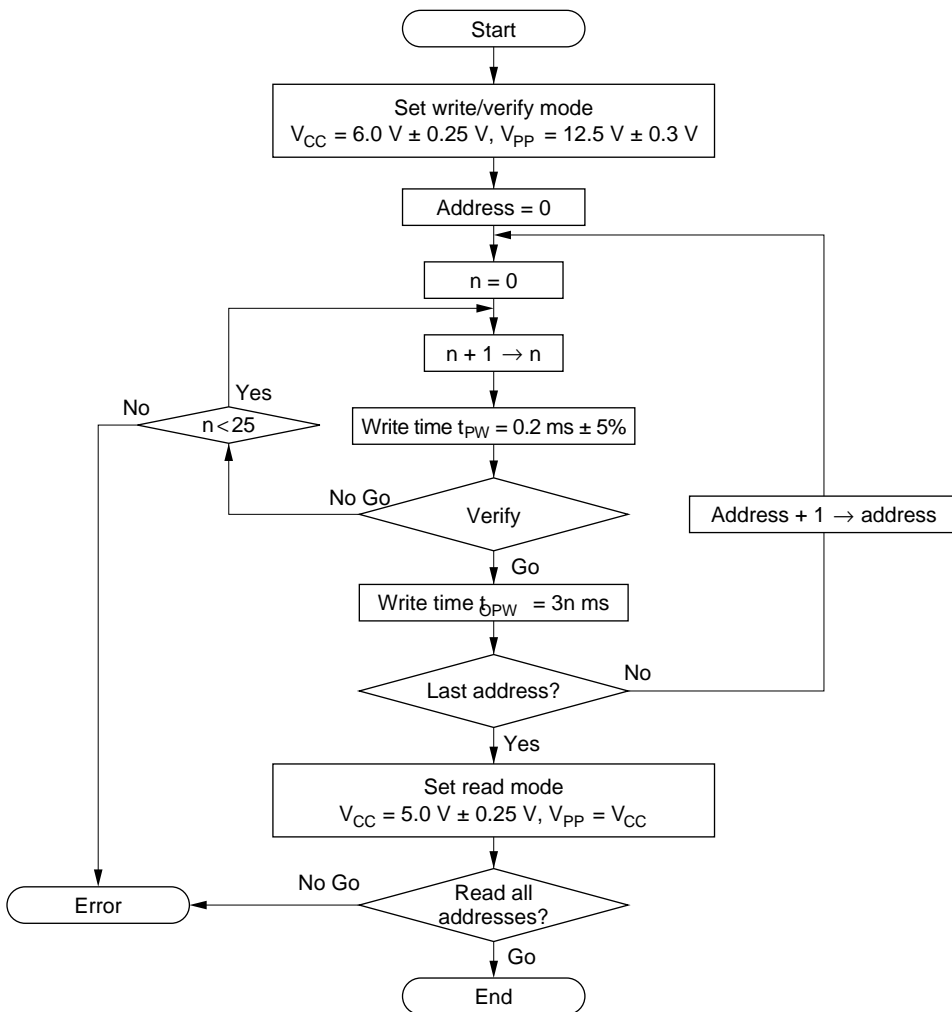

Figure 6-4 High-Speed, High-Reliability Programming Flow Chart
An efficient, high-speed, high-reliability method is available for writing and verifying the PROM data. This method achieves high speed without voltage stress on the device and without lowering the reliability of written data. Data in unused address areas has a value of H'FF. The basic flow of this high-speed, high-reliability programming method is shown in figure 6-4.
- t_{OPW} is defined by the value given in figure 6-4, High-Speed, High-Reliability Programming Flow Chart.